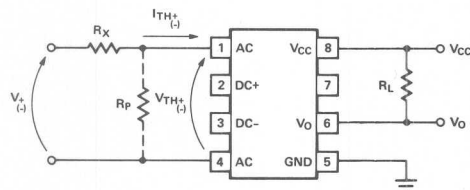

Figure 12. External Threshold Voltage Level Selection.
The HCPL-3700/3760 optocouplers have internal temperature compensated, predictable voltage and current threshold points which allow selection of an external resistor,  $R_x$ , to determine larger external threshold voltage levels. For a desired external threshold voltage,  $V_+$ , a corresponding typical value of  $R_x$  can be obtained from Figure 11. Specific calculation of  $R_x$  can be obtained from Equation (1). Specification of both  $V_+$  and  $V_-$  voltage threshold levels simultaneously can be obtained by the use of  $R_x$  and  $R_p$  as shown in Figure 12 and determined by Equations (2) and (3).